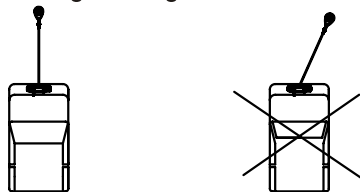

figure 4
9. Avoid pulling things from the limitary angles, or else the wire rope will cause damage to one end of the drum (see figure 4). This will cause the tangling of wire rope on the winch and bring damage to the wire rope and the winch.